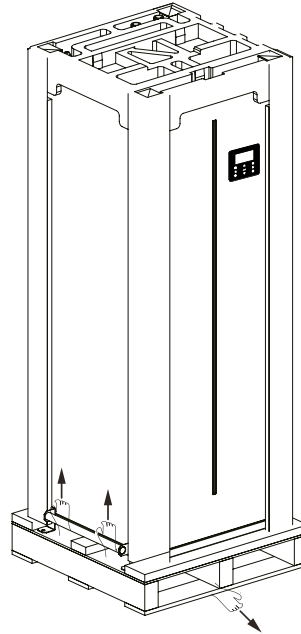

Fig. 2-4
- Four people hold the sheet metal lifting machine, one of them pull the wooden base (Refer to Fig.2-4).